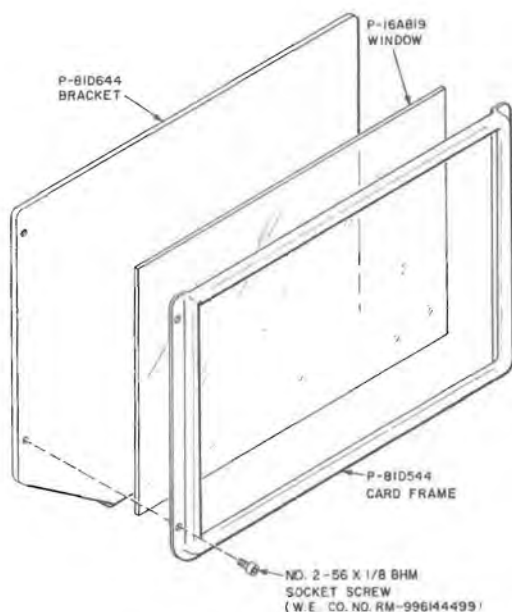

Fig. 33—8B-44 Card Holder
- (1) Remove upper housing.
- (2) Remove three No. 4 hex nuts.
- (3) Install new 8B card holder using reverse procedure.
6.51 Replace damaged or missing screws and plastic windows. Slot head frame screws shall be replaced with No. 2-56 by 1/8 BHM socket screws (Fig. 33).